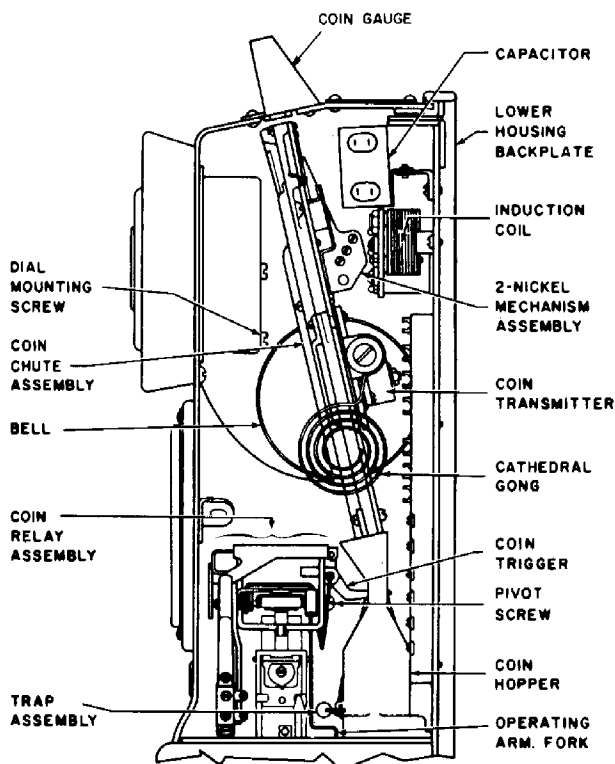

Figure 3. Upper Housing in Position.
2.05 If necessary to remove the coin gauge (see Figure 3), knock out its mounting rivets.